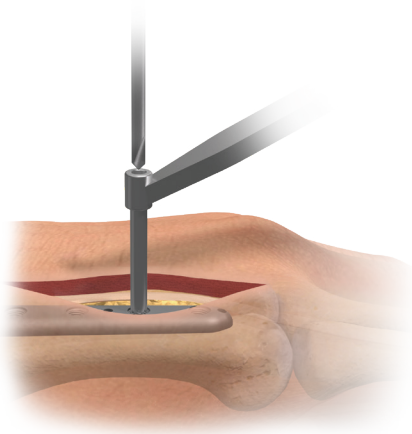
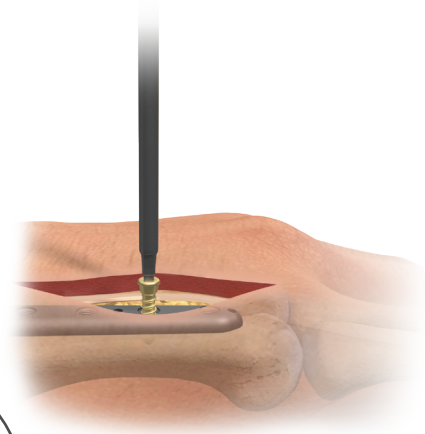
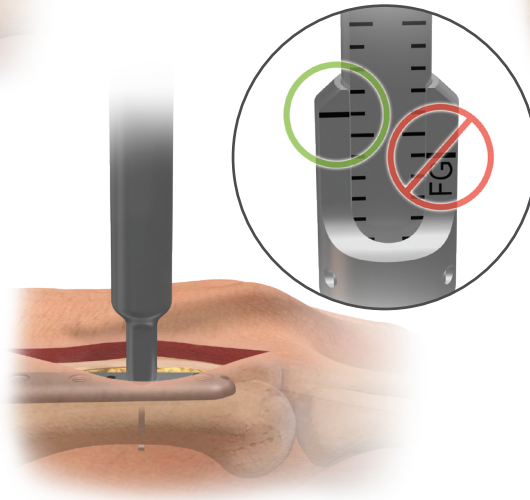

Figure 7
Figure 9
Figure 8
- ⓘ **Note:** The depth gauge has a F.A.S.T. Guide (FG) mark, do not use measurement from the FG side of the depth gauge. The opposing side should be used when determining screw lengths for this plate.
**Metacarpal Fixation:** Affix the plate distally to the metacarpal using one of the two central locking holes in the distal end of the plate. Using a 2.2mm Drill Bit, drill through the desired hole (Figure 7). Use the Bone Depth Gauge to measure the drilled hole (Figure 8). Using the 1.7mm Square Driver, fill the distal drilled holes with the appropriate length locking or non-locking screw (Figure 9).